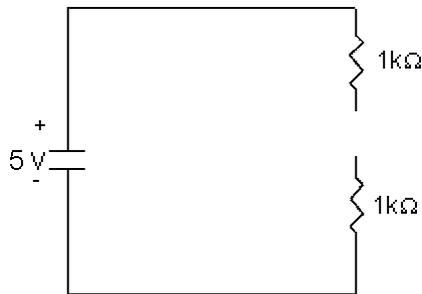

Figure 4. Disconnected circuit.
8. Now disconnect the two resistors from each other, leaving everything else connected (an open circuit) as in Figure 4. Measure the voltage across each resistor. Measure the voltage across the disconnection. Record all results and explain them. If you do not understand the measurements you are taking be sure to ask!